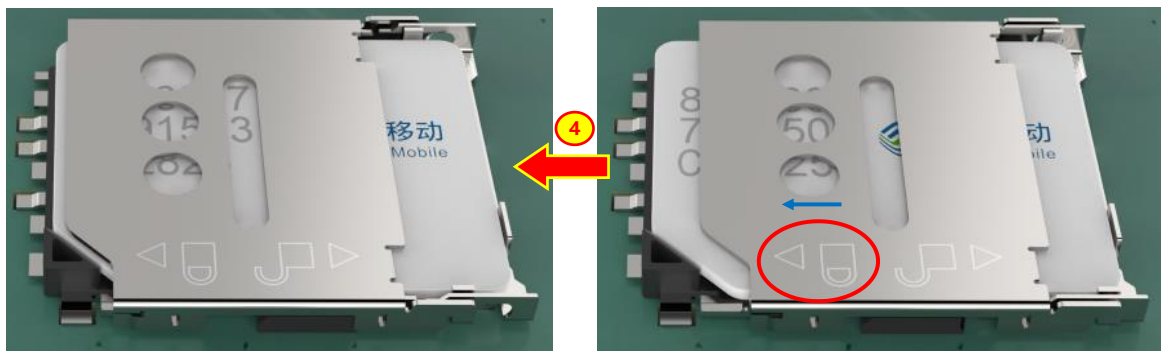

Figure 4-13: Slide the Upper Cover to the Locking Position
Step 4: Slide the upper cover to the lock position according to the direction of the locking symbol (See Figure 4-13).